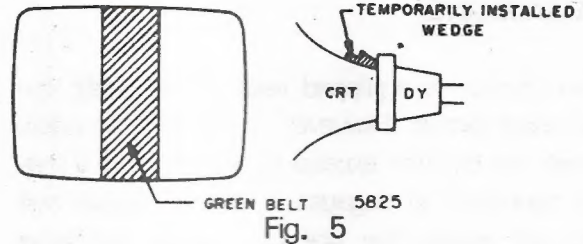

Fig. 5
6. Pull the Deflection Yoke backward so that the Green belt will appear. (See Fig.5)
12. Turn all three bias controls fully counterclockwise(CCW). Slowly turn up(CW) the red bias control until a Red raster is just barely visible.
15. Insert a wedge temporarily as shown in Fig. 5 and adjust the angle of the Deflection Yoke.